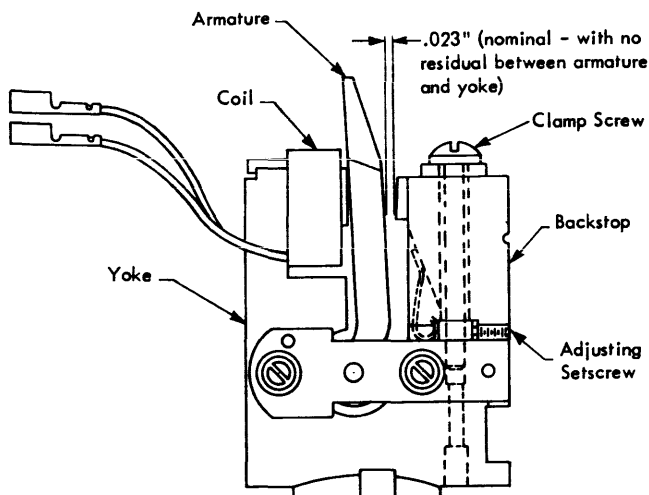

Figure 80. Hammer Magnet Assembly
7. Rotate the adjusting setscrew (Figure 80) to make the backstop-to-armature clearance similar to adjacent magnet assemblies. Completely loosen the clamp screw, and retighten.